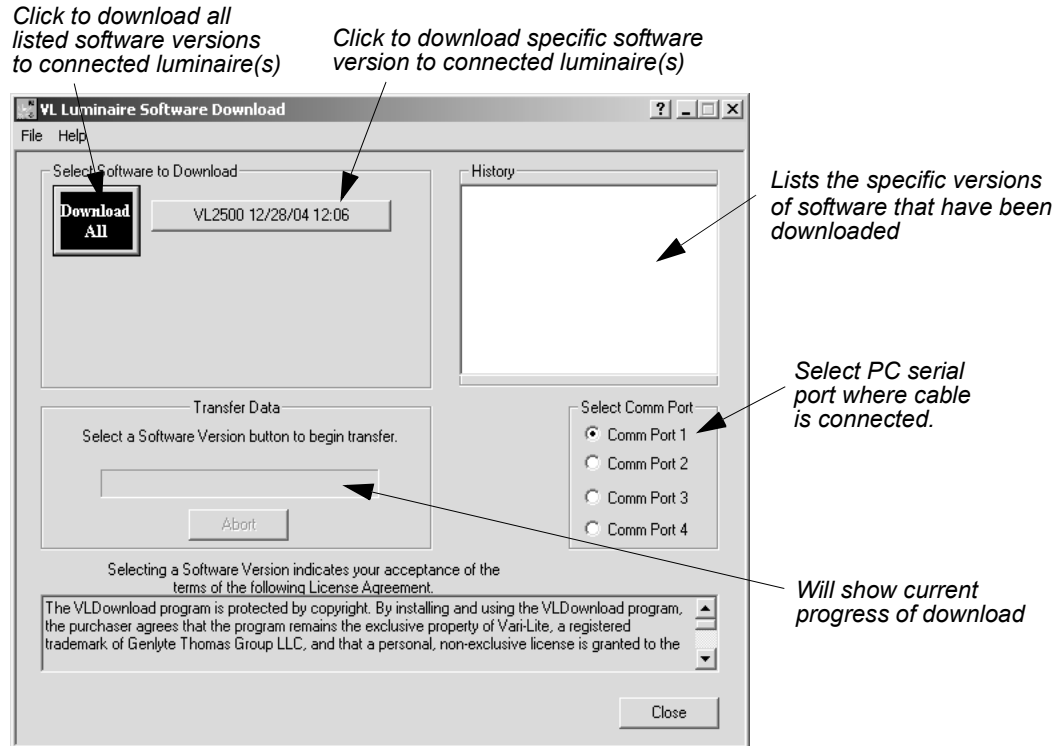

Figure 3-8: Download Interface Window
- Step 6. At **Select Comm Port** section of window (refer to Figure 3-8 on next page), select serial Comm Port (Comm Port 1, Comm Port 2, Comm Port 3, or Comm Port 4) where *Serial Straight Thru Cable* is connected.